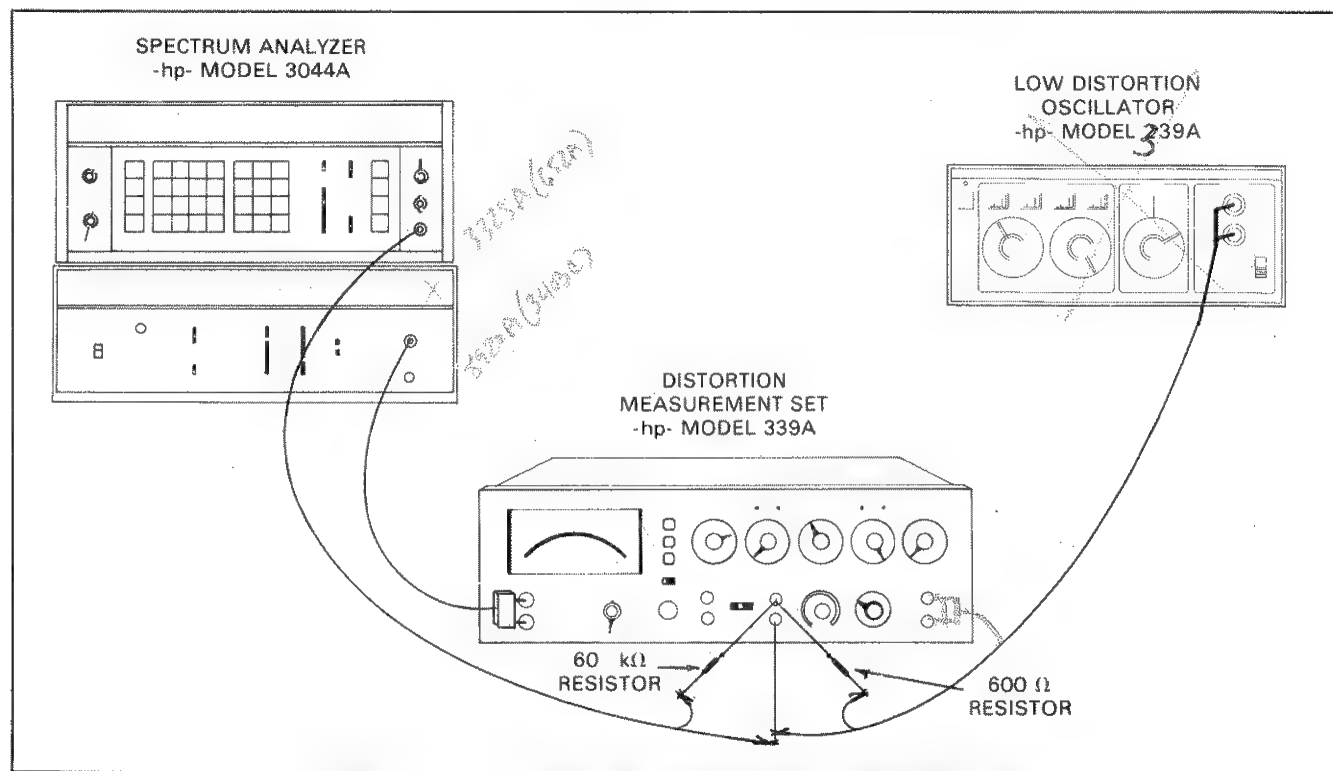

Figure 4-11. Distortion Measurement Accuracy Test.
b. Connect the equipment as shown in Figure 4-11.